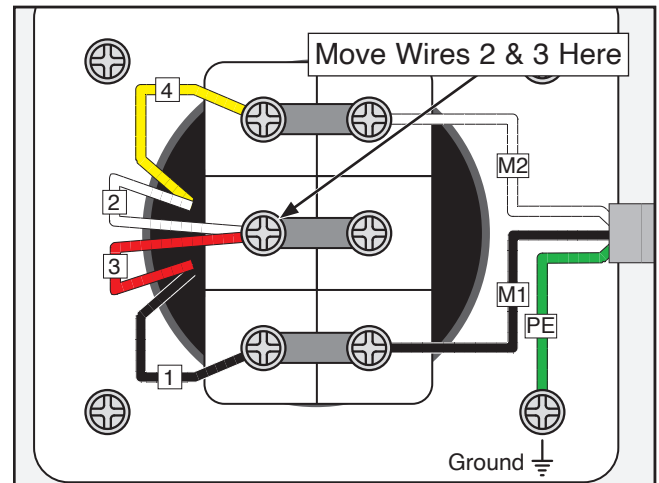

Figure 7. Motor wiring (220V).
4. Move wire 2 and wire 3 to middle terminal (see **Figure 7**), then tighten terminals from **Step 3**.